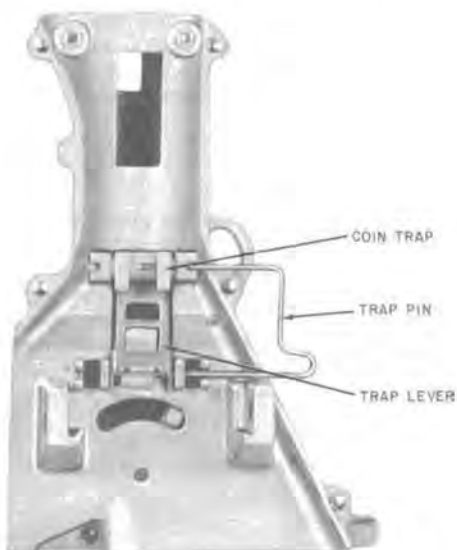

Fig. 46—Placing Coin Trap on Hopper
- (3) Insert coin trap in hopper and engage pin in trap (Fig. 46).